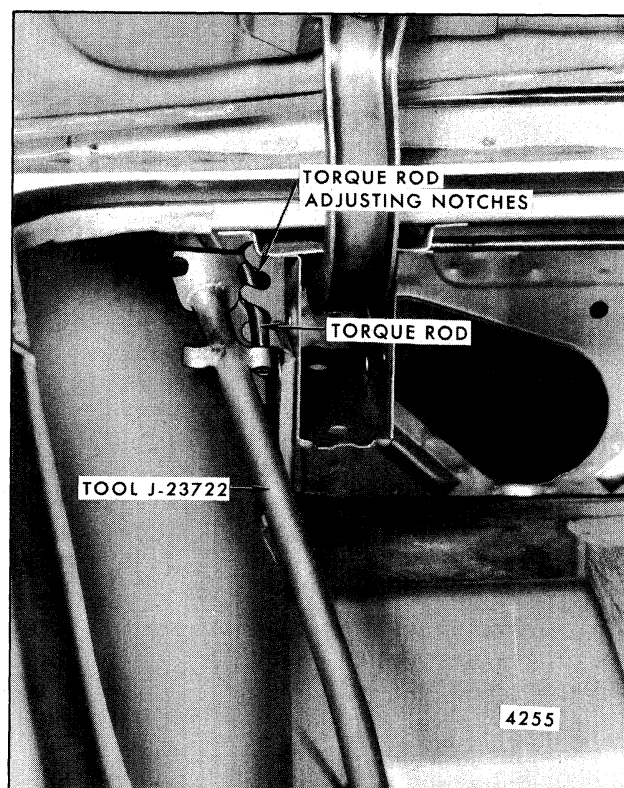

Fig. 7-38-Rear Compartment Torque Rod Adjustment - Cadillac "C-E" and Buick "E" Styles
- c. On Cadillac "C and E" and Buick "E" styles, use tool J-23722 or equivalent (Fig. 7-38).